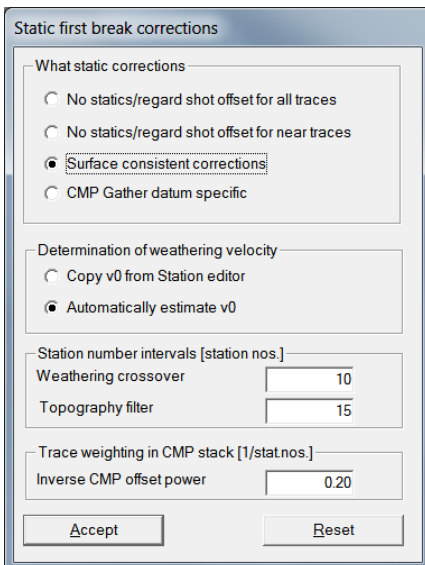

Fig. 11 : DeltatV | Interactive DeltatV | Static Corrections
- select **Trace|Shot gather**. Select **Display|Show picks on time axis** (Fig. 11 a).
- select *DeltatV|Interactive DeltatV|Static Corrections*. Set *Inverse CMP offset power* to 0.2 (Fig. 11). Click *Accept & Cancel* buttons. This gives a smoother 1D-gradient DeltatV-based starting model.
Decreasing **Inverse CMP offset power** from default 0.5 to 0.2 (Fig. 11) results in a more laterally and vertically smoothed 1D-gradient initial model plot for this profile (Fig. 6) especially in overburden just below topography. See our updated pdf reference chapter **DeltatV Static Corrections** on page 208.